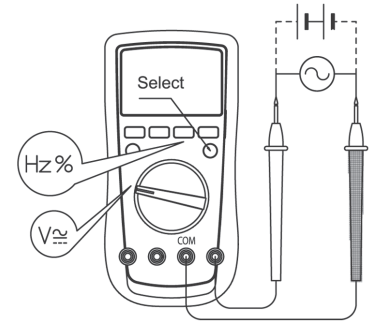

Figure 2
A. AC/DC VOLTAGE MEASUREMENT (See Figure 2)